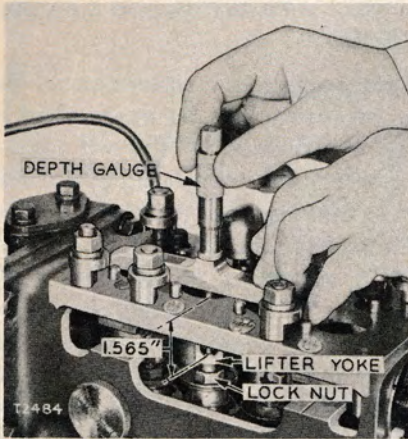

FIGURE 33
1. The pump lifter can be set by the use of a depth gauge (fig. 33). Turn the camshaft until the lobe is at **TOP**. (This can be determined with a dial indicator.) Loosen the lifter lock nut and adjust the lifter yoke to 1.565" from the top of the pump housing to the lifter yoke.